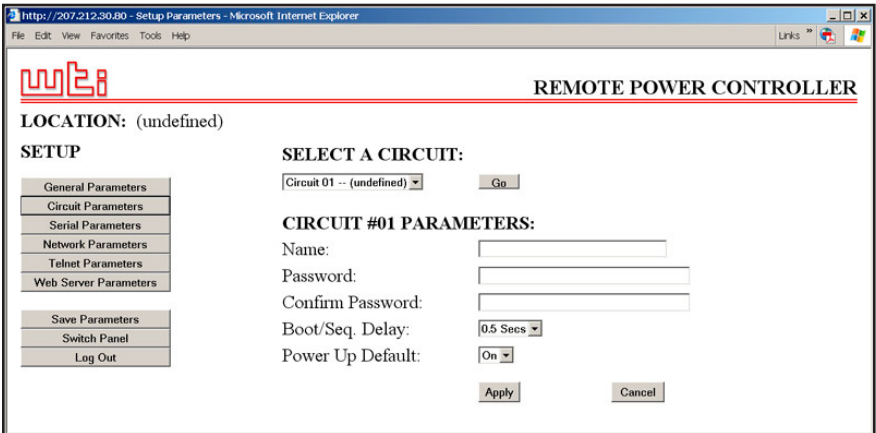

Figure 5.7: Circuit Parameters Menu - Web Browser Interface
- **Web Browser Interface:** Click the "Setup" button to access the configuration menus, then click the "Circuit Parameters" button. The Circuit Parameters Menu will be displayed as shown in Figure 5.7.